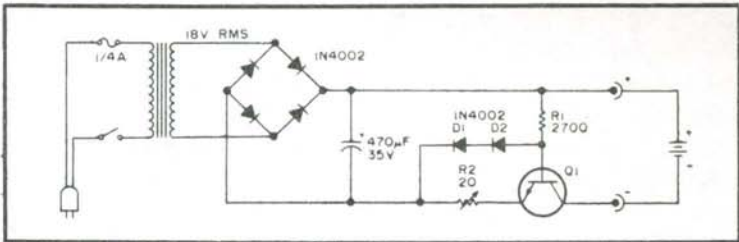
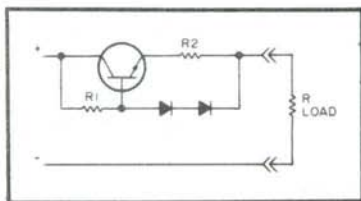

Fig. 8-8. Nicad charger.
Fig. 8-9. Current regulator.
3. When charging standard nicads (other than "Quick-Charge" units), limit the charge current to about $\frac{1}{10}$ the rated ampere-hour capacity. Excessive charge current causes overheating, which may result in seal rupture and venting of excess pressure. Once the seal is broken, the cell will rapidly dry out and become useless. Figure 8-8 is representative of a "universal" type nicad charger circuit. The transformer, rectifier, and filter capacitor are conventional design. The transformer itself is an 18 volt doorbell unit which gives a rectified dc output of 25 volts.
hams are familiar with the emitter follower circuit in Fig. 8-9. Placing the load in the collector circuit as in Fig. 8-8 allows a measure of gain and results in better current limiting action.
In Fig. 8-8, resistor R1 is used to provide forward bias to the base of Q1, bringing that transistor into conduction. With no collector load (batteries) in the circuit, the emitter current is very low. Thus the resulting voltage drop across the base-emitter junction and R2 is not adequate to forward bias the two diodes, D1 and D2. This leaves the transistor in a full-on state with the whole supply voltage present at the output terminals.